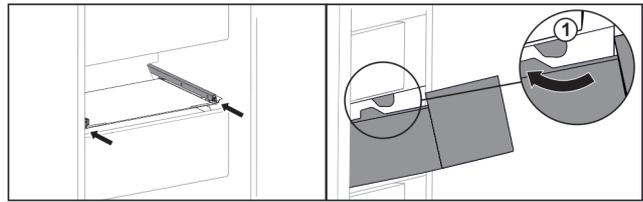

Fig. 47
- ▶ Guide drawer around the stoppers Fig. 47 (1).